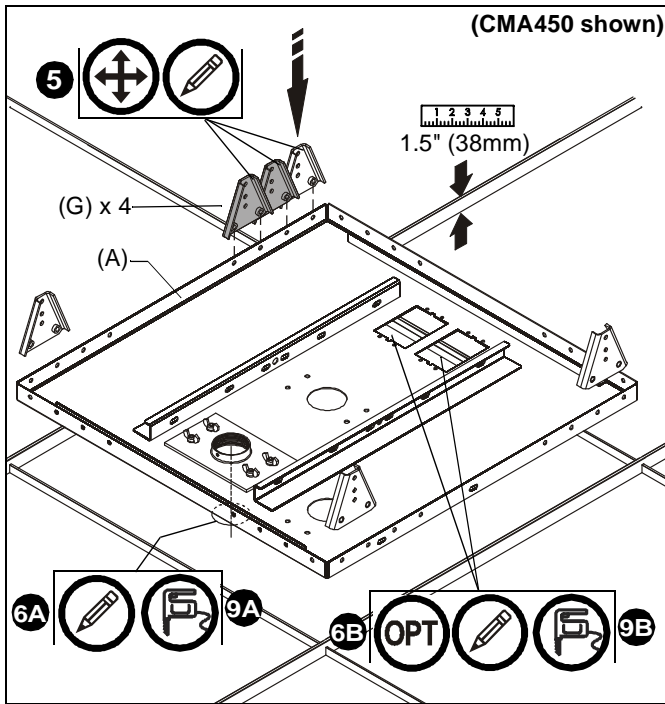
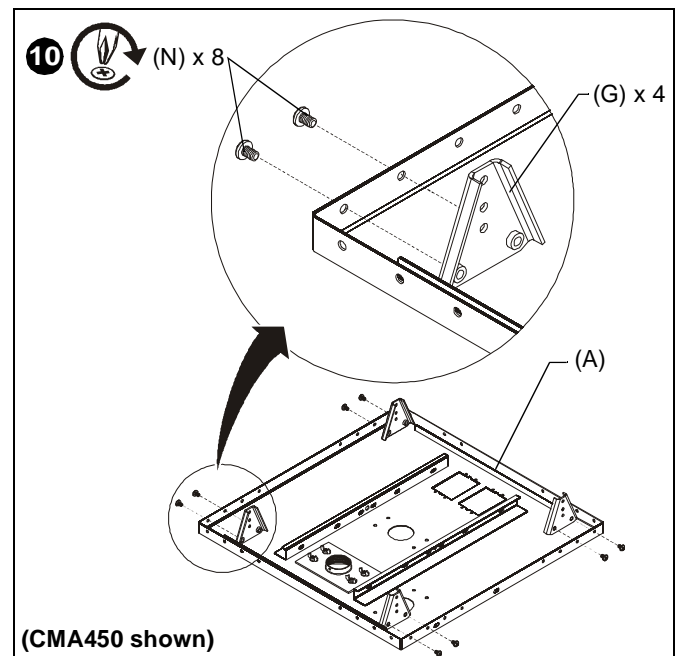

Figure 4
Figure 6
4. Lay assembly (A) on top of ceiling tile so that extension column support is aligned with location noted in Step 1.
5. Mark locations for hanger brackets (G) on tray (A) with pencil (See Figure 4). Each hanger bracket (G) may be installed in one of 3 locations in each corner of tray (A), dependent upon specific installation requirements. Ensure brackets (G) are located as follows:
- On sides of tray (A) adjacent to primary (1-1/2" (38mm) high) rails of ceiling framework.
- As close to corner of tray (A) as installation allows.
6. **Installation on Top of Existing Tile only:** Mark the following locations on ceiling tile with pencil (See Figure 4):
8. Remove tray (A) and affected ceiling tile.
9. **Installation on Top of Existing Tile only:** Cut the following holes in ceiling tile (See Figure 4):
- B. **OPTIONAL:** Cut electrical box opening in tile at marked location. Install UL Listed electrical box (not included) to tray (A) following instructions included with electrical box.
10. Install four hanger brackets (G) to tray (A) with eight 1/4-20 x 3/8" Phillips head screws (N) at marked locations (See Figure 6). Ensure brackets (G) are installed against *inside* flanges of tray (A).